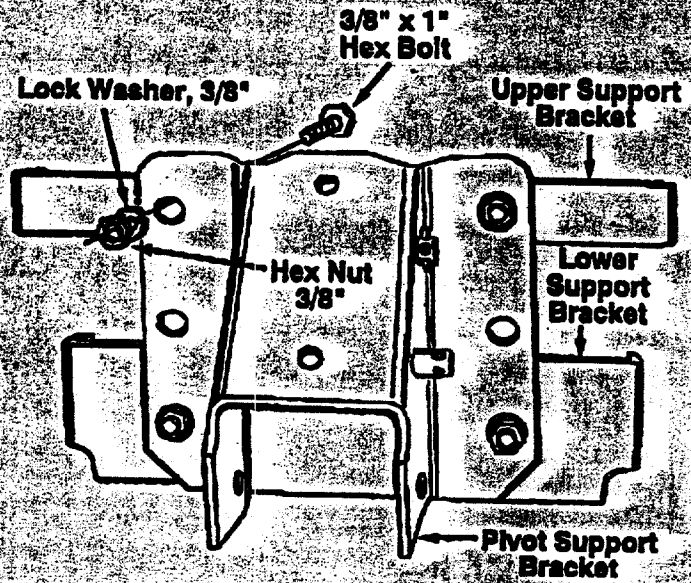

FIGURE 3
- Attach the upper support bracket and the lower support bracket to the pivot support bracket, using four 3/8" x 1" hex bolts, 3/8" lock washers and 3/8" hex nuts. See figure 3. Tighten securely.